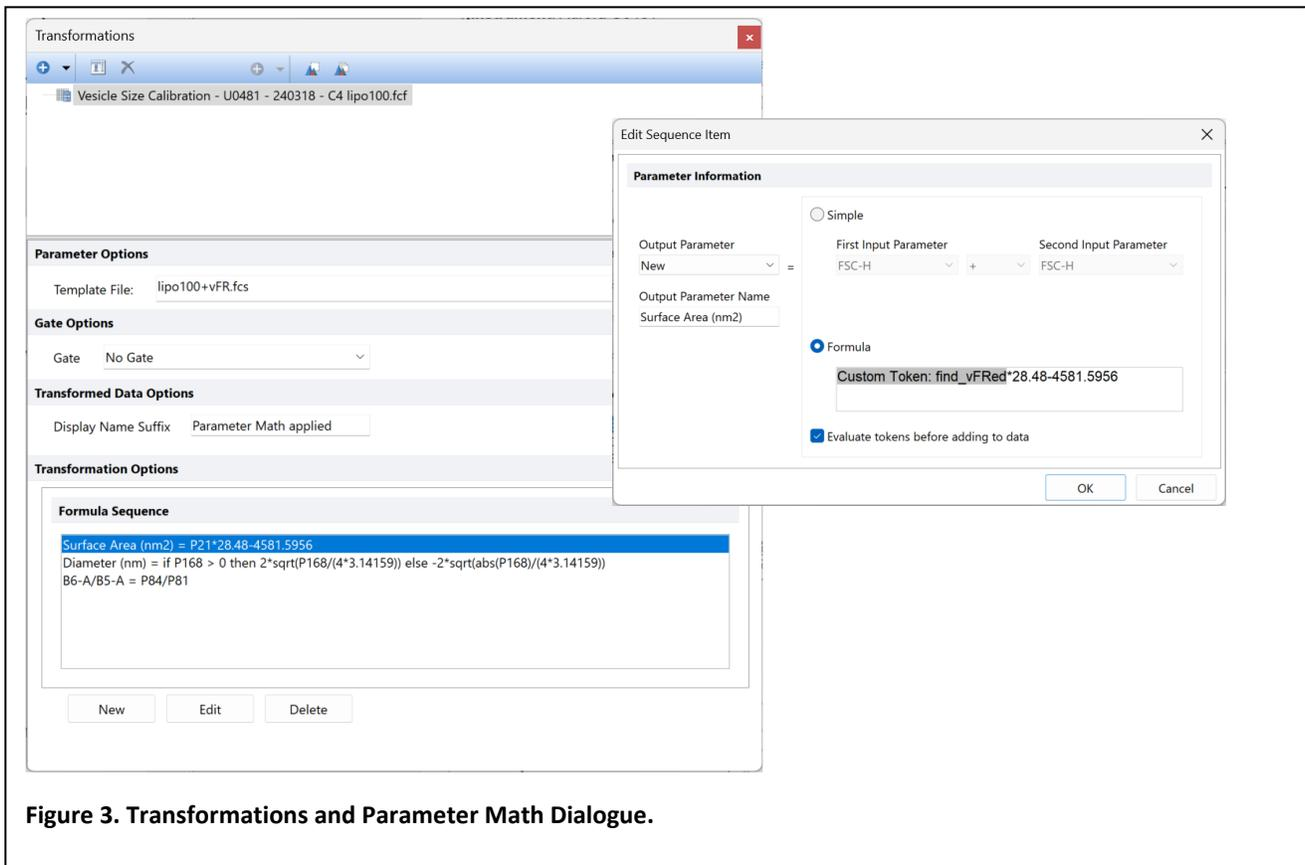

Figure 3. Transformations and Parameter Math Dialogue.
5. Open Transformations (Tools>Transformations) then select the Vesicle Size Calibration parameter math Transformation (**Figure 3**).